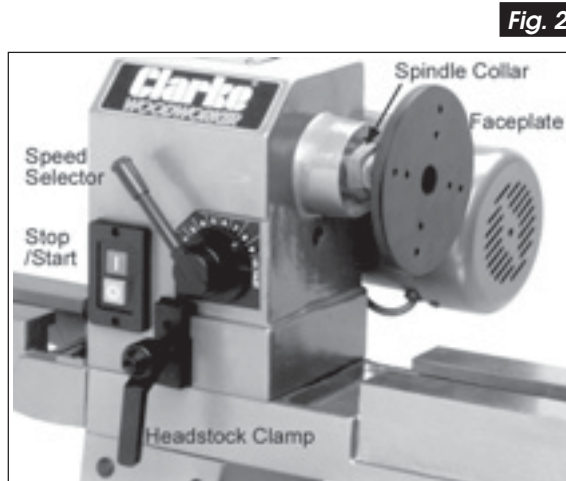

Fig. 2
A. The Headstock (see fig.2)
The Headstock is further secured to the bed by a clamp (see fig. 2). The clamp should be firmly applied using the Handle (item 24A), and the headstock should then be solid with the bed.